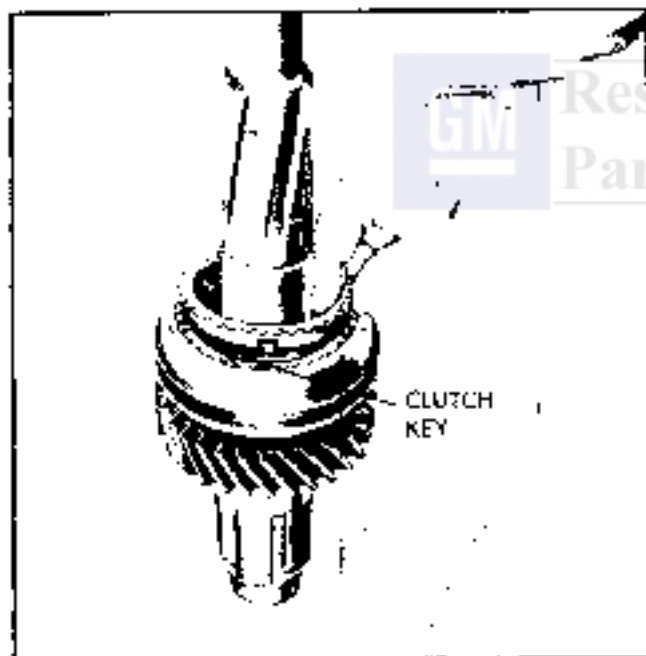

Fig. 7D-19 Installing First Speed Synchronizing Ring
2. Install 1-2 synchronizer clutch assembly to mainshaft (sliding clutch sleeve taper toward the rear, hub to the front), together with a synchronizing ring on either side so their keyways line up with the clutch keys (Fig. 7D-19).